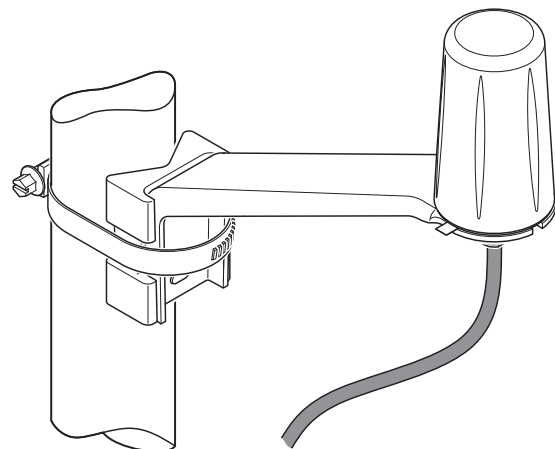

Figure 6 TC ANT MOBILE WALL 5M, mast mounting
- **Mast mounting:** Mount the mounting bracket using a worm drive clip with a maximum width of 14 mm (see Figure 6).